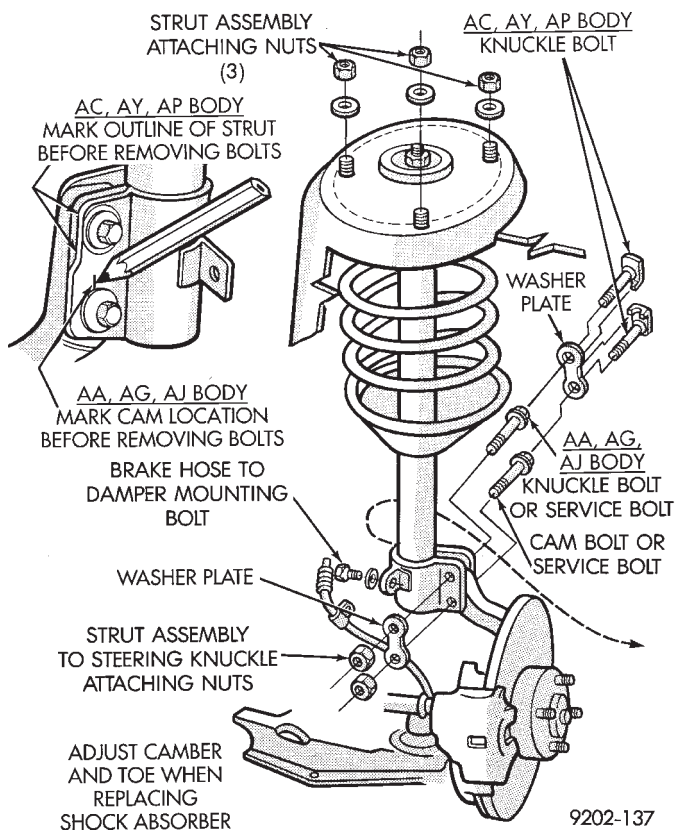

Fig. 2 Alignment Adjustment Locations
- (1) Prepare vehicle as described in the Pre-Alignment procedure.
- (2) Loosen cam and knuckle bolts (each side) (Fig. 2).
- (3) Rotate cam bolt (Fig. 2) to move top of wheel in or out to specified camber.
- (4) Tighten the cam bolts and nuts to 100 N•m (75 ft. lbs.) **plus** 1/4 turn beyond specified torque.
- (2) Position the vehicle on the alignment equipment and read camber as instructed by equipment manufacturer's procedure.
- (3) Using extensions and appropriate tools. Remove the strut assembly to steering knuckle attaching bolts from vehicle (Fig. 2). Replace the original attaching bolts with the bolts provided in the alignment, Cam And Bolt Service Package.
- (4) Rotate the alignment adjusting cam bolt, (Fig. 2) to obtain the specified camber setting for the vehicle. See the Specifications Section at the end of this group for the camber setting for the vehicle being serviced.
- (5) Using the appropriate extensions and tools. Carefully reach around the tire and tighten the knuckle bolts enough to hold the camber setting. Finish by tightening the bolts to 100 N•m (75 ft.lbs.) **plus** 1/4 turn beyond specified torque.